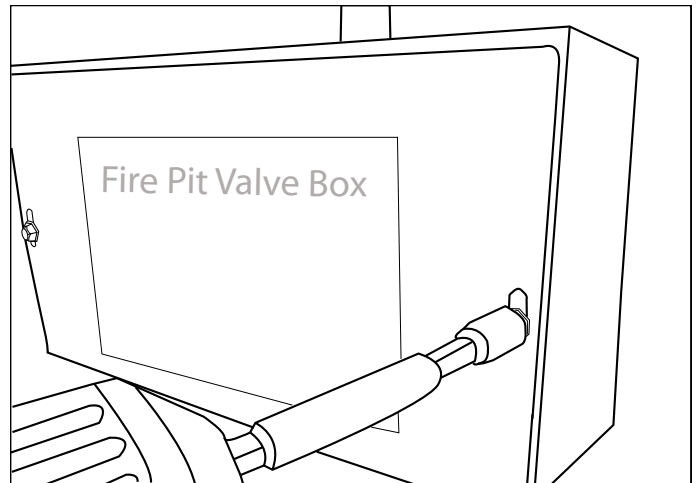

Fig. 28 Removing the cover from metal box.
1. Remove the two screws securing the cover on the control box (See Fig. 28). The cover will slide down exposing the gas valve and control module.